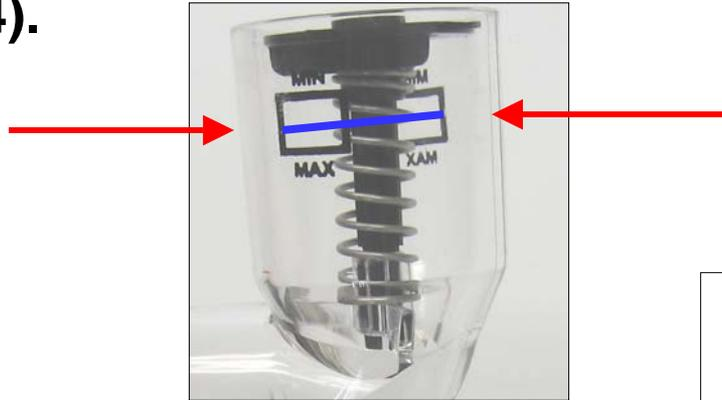

Figure 4
5. Turn the pump on and check the flow to the unit by using the flow gauge (submerged). The flow must be between the “min” and “max” (fig 4).